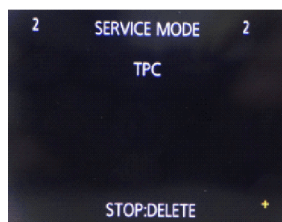

Fig.3-11
7. The (+) mark appears in the bottom right (Fig.3-11). Then touch the (+) mark.